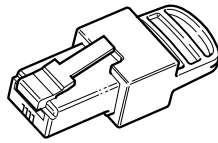

Figure 2-12 Network Terminator
- Network terminators (see Figure 2-12)—the Xanbus network must be properly terminated at each end to help ensure communication signal quality.